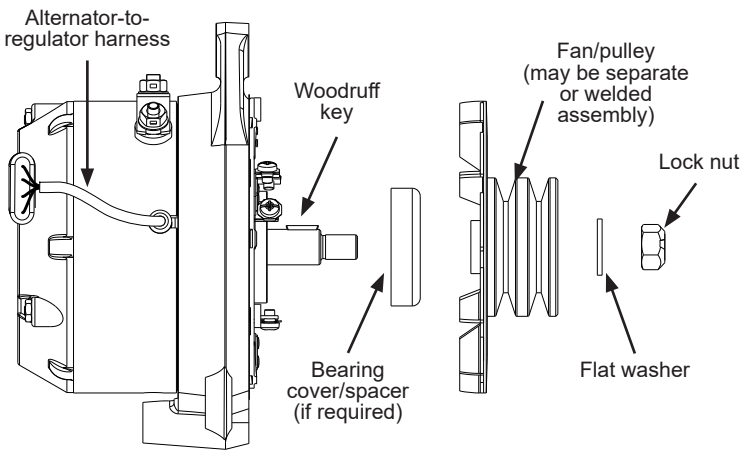

Figure 1: Install Fan and Pulley
- b. Install bearing cover and/or spacer (if required by application), fan, and pulley with flat washer and lock nut. Torque nut to 68 Nm/50 lb. ft. See Figure 1.